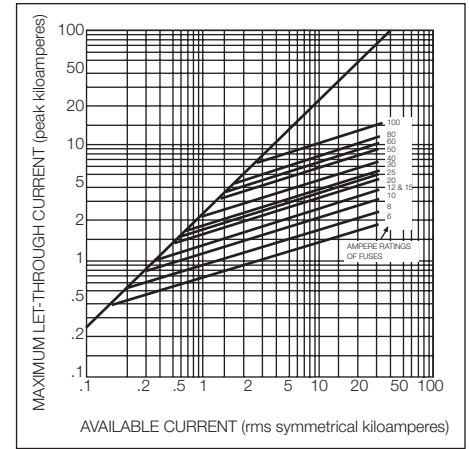

Figure 11.
15.5	2	18.25 (463)	8.94 (227)	2.44 (62)	1.44 (37)	17.81 (452)
** See Figure 11 for dimensional drawing.